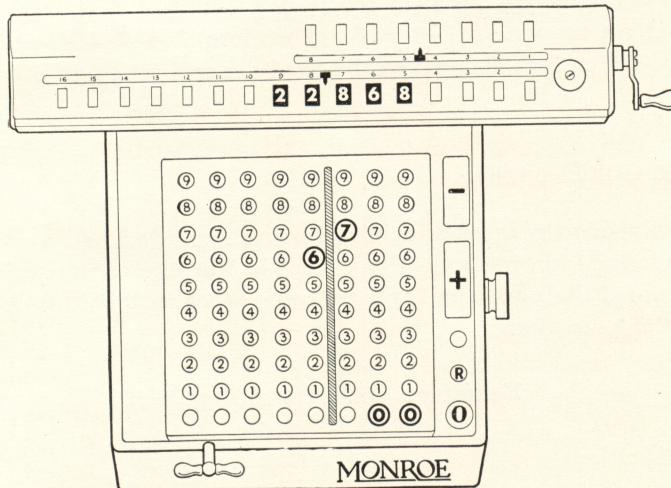

Figure 9
Step 4—The first operation is to add the dividend, 22.868, in the lower dials. Set 22.868 on the keyboard. Move the carriage to the "5" position so that 22.868 will show in the lower dials correctly pointed off at the decimal point in the 7th place. See Figure 9.
Step 6—Set 6.7 on the keyboard so that it appears as 6.700. Have the carriage in the "5" position so that 6.7 can be subtracted from the 22.8 of the dividend. See Figure 9.